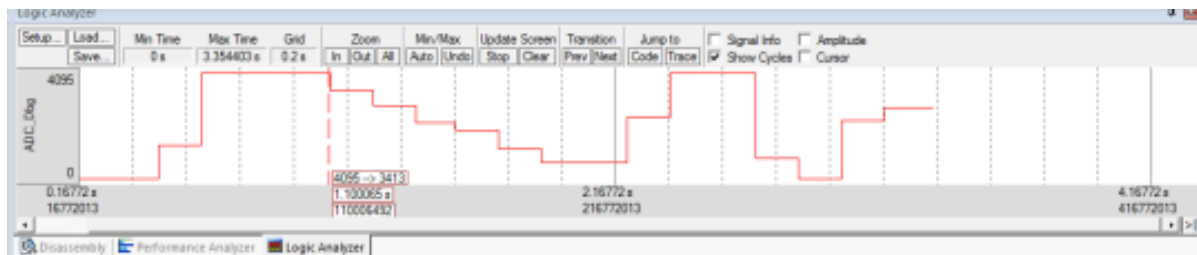

Fig. 18: Simulating the Pot and A/D Conversion using Logic Analyzer
11. Keep transitioning to different values using this simulated potentiometer method. Your simulation should then resemble close to Figure 18.